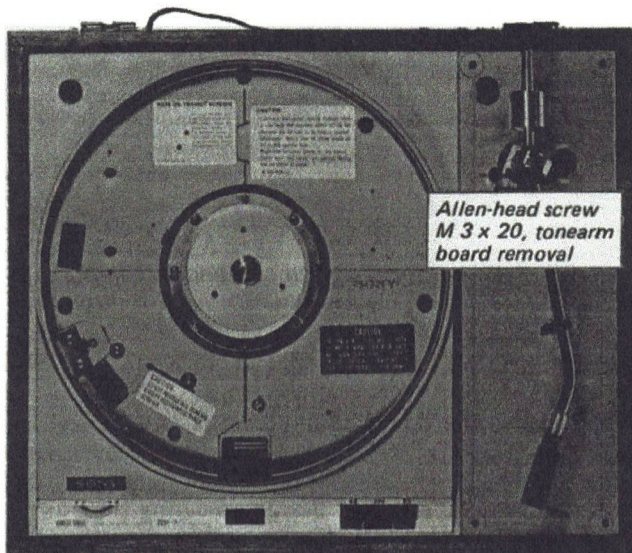

Fig. 2-11. Tonearm board removal
2. Remove the four allen head screws (M 3 x 20). See Fig. 2-11. This frees the tonearm board.